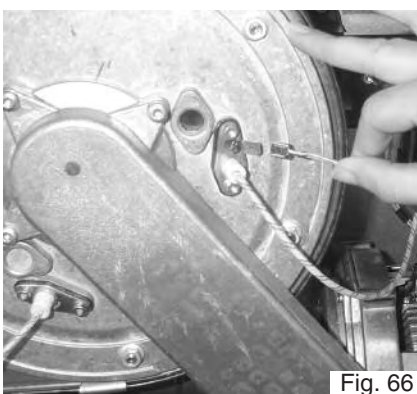

Fig. 66
2. Remove the earth cable from the electrode (Fig. 66);